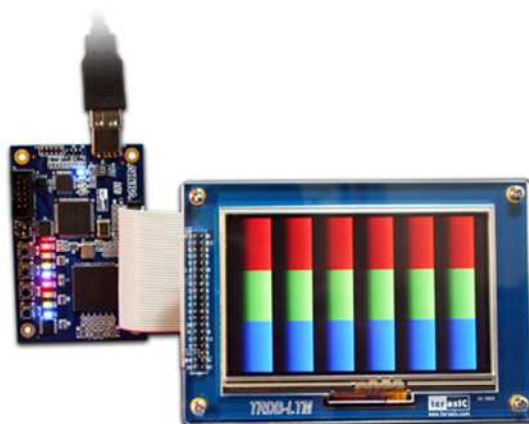

Figure 4.5. The connection setup for the pattern generator demo with MAX II Micro board.
1. Ensure the connection is made correctly, as shown in Figure 4.5.